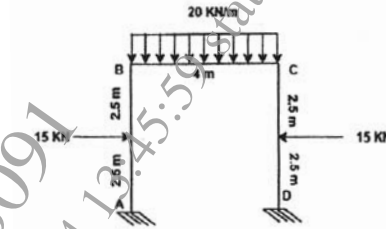

Figure 3
- Q2)** Analyze the frame shown in figure 3 by slope deflection method and draw BMD. Assume uniform flexural rigidity. [18]